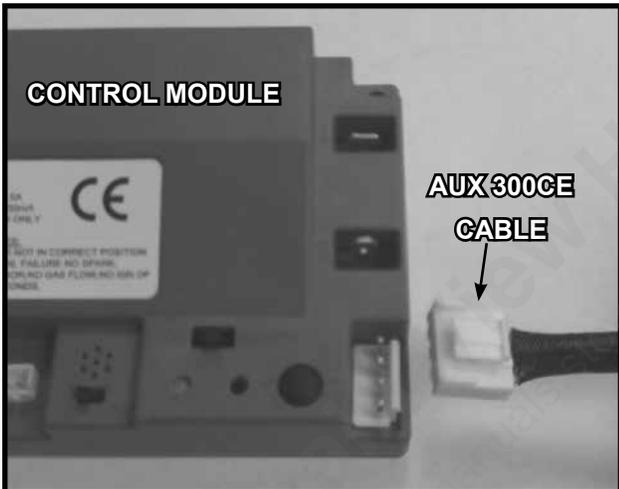

Figure 50. AUX 300 module installation
- Insert the 4 hole harness from the AUX300CE module into the 4 pin plug on the control module. See Figure 50.